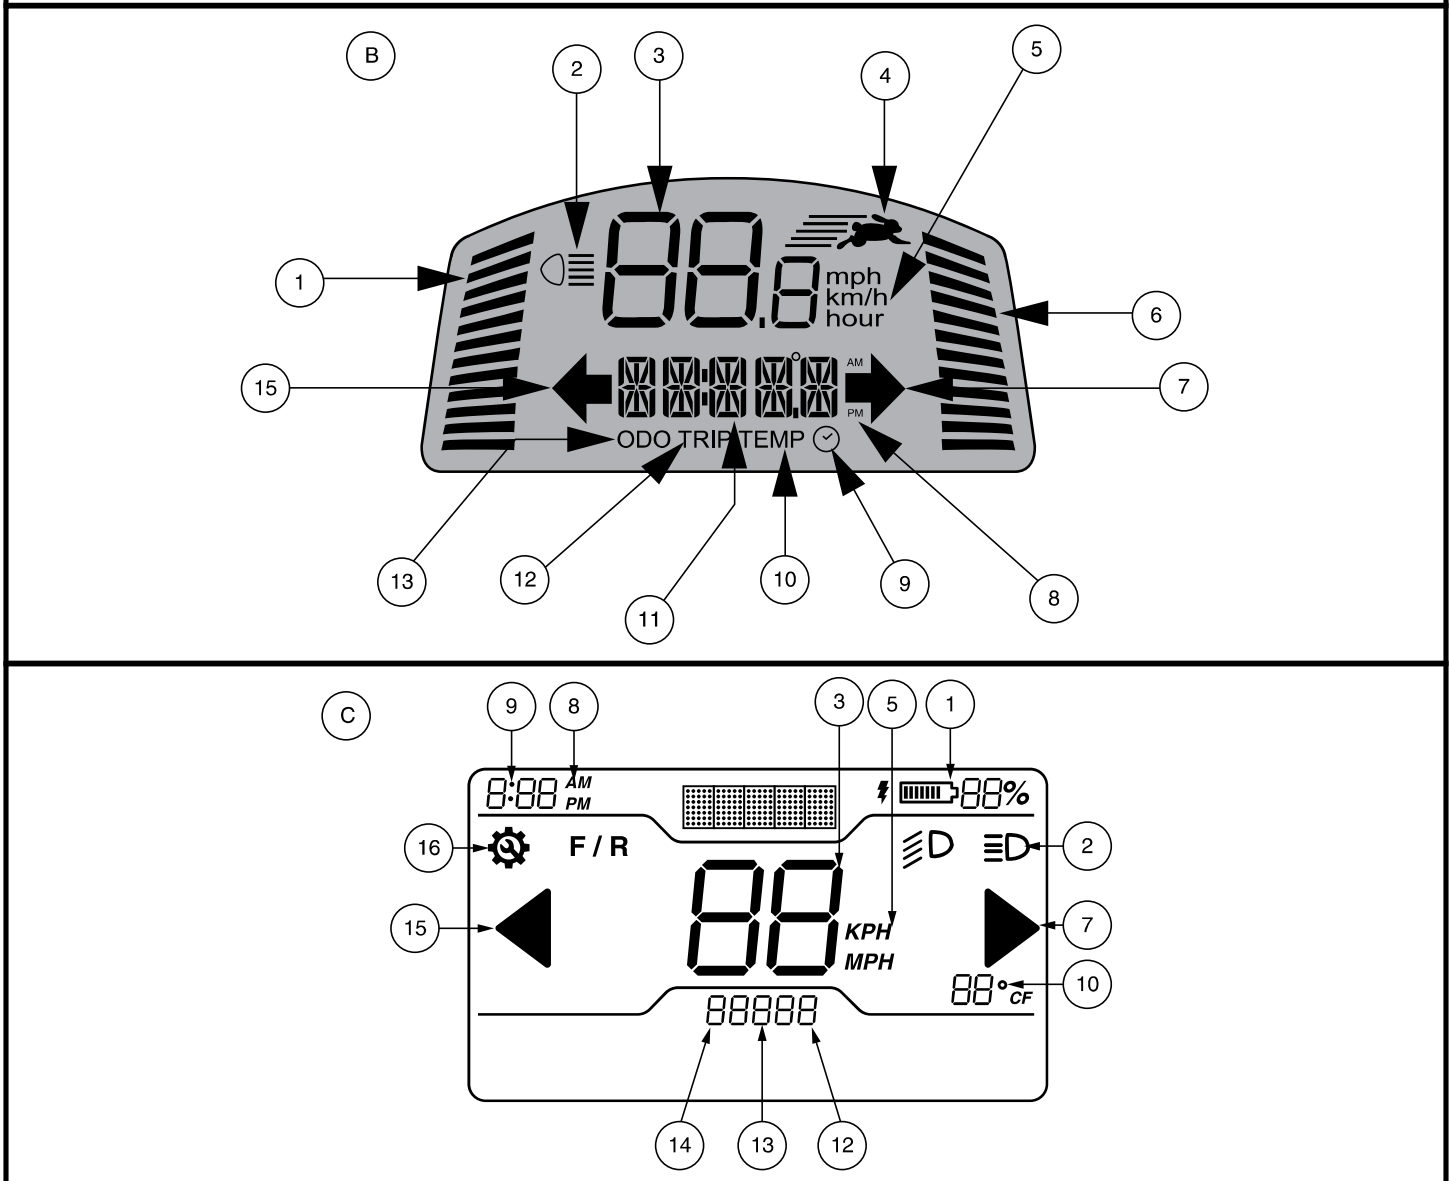

Abb. 5. LCD-scherm - Consolestijl B (boven) en consolestijl C (onder)
** VOOR INFORMATIE OVER HET LCD-SCHERM ZIE AFBEELDING 5.